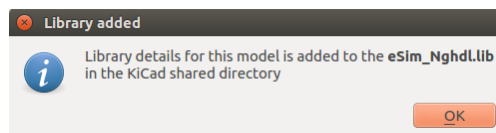

Figure 9.4: Uploading of digital model
2. Now browse and locate the VHDL file to upload. Select the VHDL file and click on the Upload button. This process will create Ngspice model and corresponding component drawing inside the KiCad library (eSim.Nghdl.lib) of the VHDL block to be used in mixed-signal simulations. An acknowledgement message will appear upon successful processing of the VHDL code as shown in Fig. 9.4.